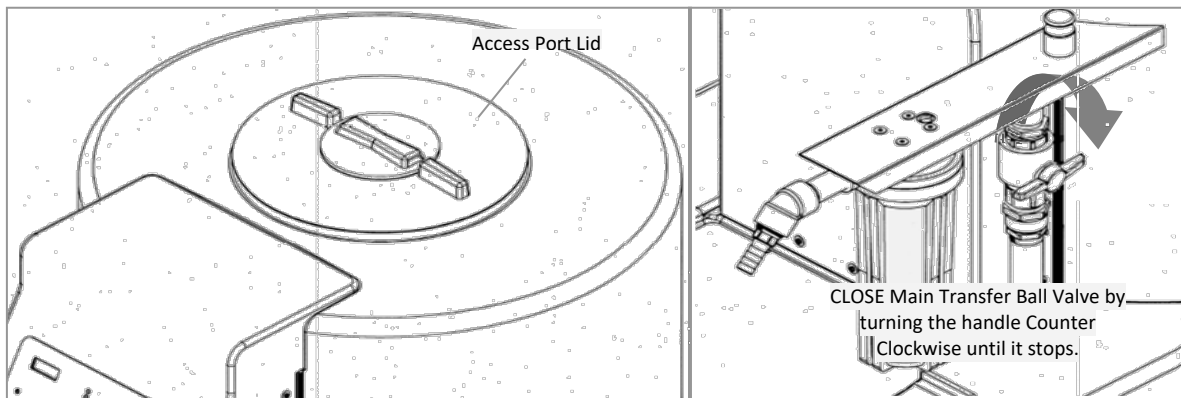

Figure 1
1. Before initiating the *RINSE CYCLE*, the operator must ensure that the GranuFlo Dissolution Unit II Access Port Lid is in place (do not fully secure) and the Main Transfer Ball Valve is in the CLOSED position. Make sure input water supply valve is OPEN ( Figure 1).